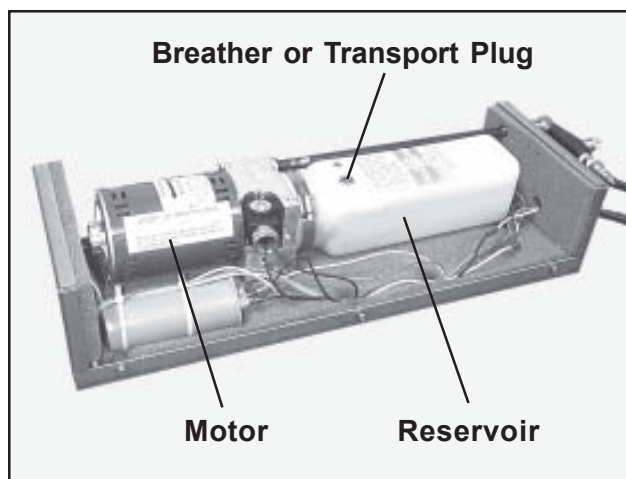

Figure 48. Location of Breather or Transport Plug in Reservoir
2. With a flat-blade screwdriver, unscrew the breather plug in the reservoir (Figure 48).
11. Remove the breather plug and install the transport plug (Figure 48).